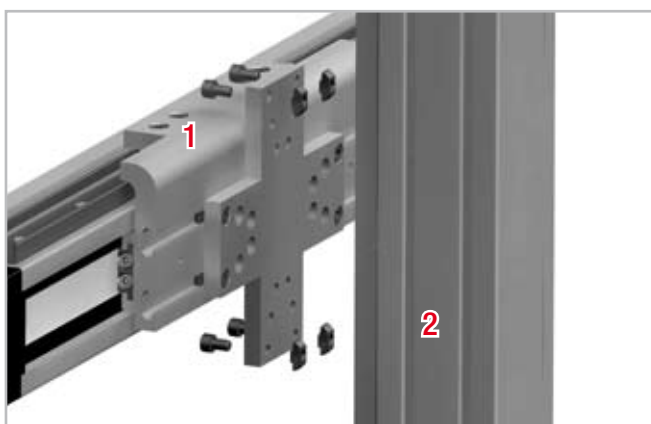

Fig. 76
4. Introduce the screws from the other side of the connection plate (see fig. 76).